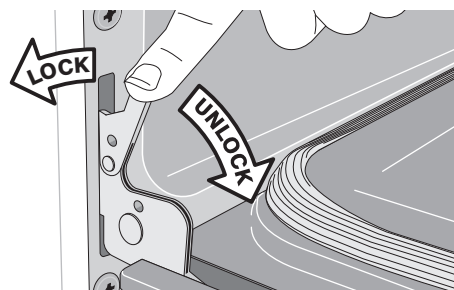

Figure 56: Door hinge locks
2. Pull the door hinge locks on both left and right door hinges down from the oven frame completely towards the oven door (Figure 56). A tool such as a small flat-blade screw-driver may be required.
4. Push the door hinge locks up towards and into the oven frame on both left and right oven door hinges to the locked position; then, close the oven door (Figure 56).